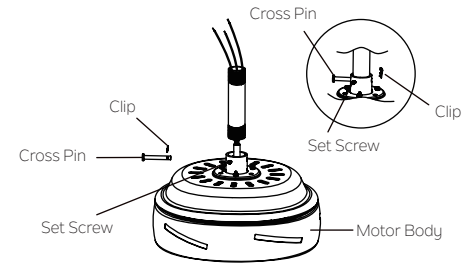

Fig. 8
Step 4. Loosen the two set screws and remove the clip and cross pin from the top coupling of the motor body. Carefully feed the fan wires up through the downrod. Thread the downrod onto the motor coupling until the cross pin holes are aligned. Next, replace the cross pin and clip, and tighten both set screws. (Fig.8)